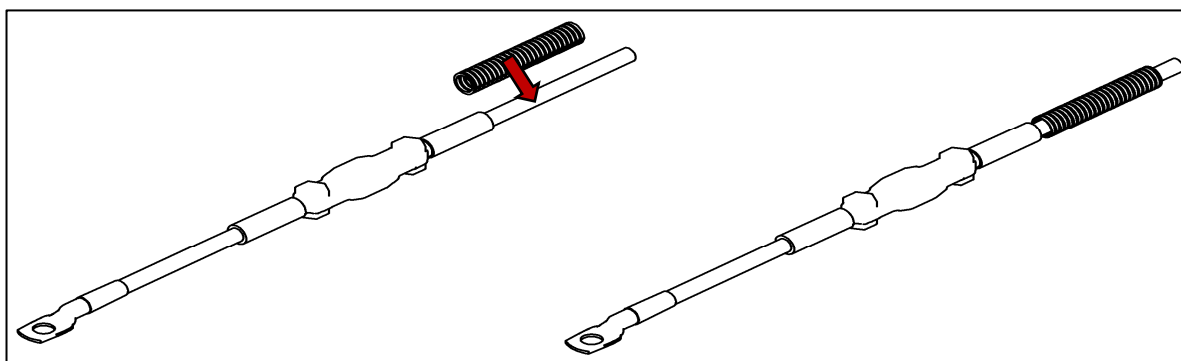

Fig. 17
- Insert the positive cable (25 mm2 red) ("power unit cable") for the power supply into a length of slit corrugated tubing (see Fig. 17).